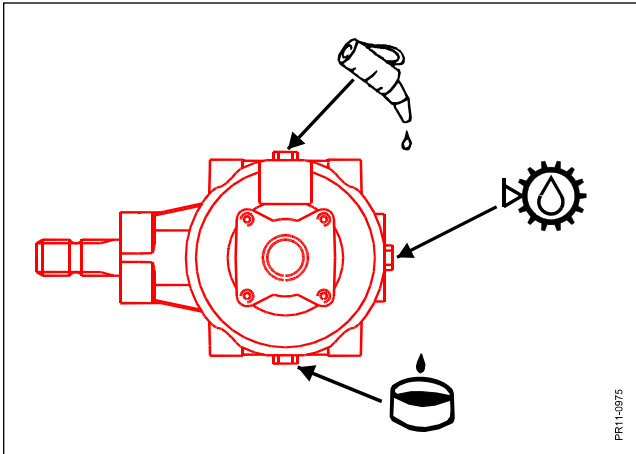

Fig. 4-1
- Fig. 4-1**   **Oil content:**  **1000 rpm = 1.2 l**